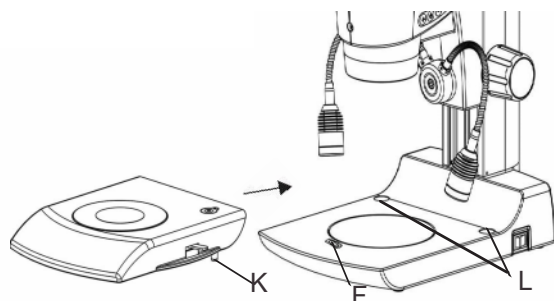

Fig. 5
1. Remove Black & White specimen plate from base pressing the plate as shown in fig. 5.
2. Place the Dark Field Base gently on to the Luxeo 6z base by matching the Guide pins of Dark field base (K) with the Guide holes (L). Refer fig. 5.
3. The 9 pin male connector below dark field base will automatically connect to the female 9 pin inlet (F) while pressing it gently on the Luxeo 6z base. Refer fig. 5 and 6.